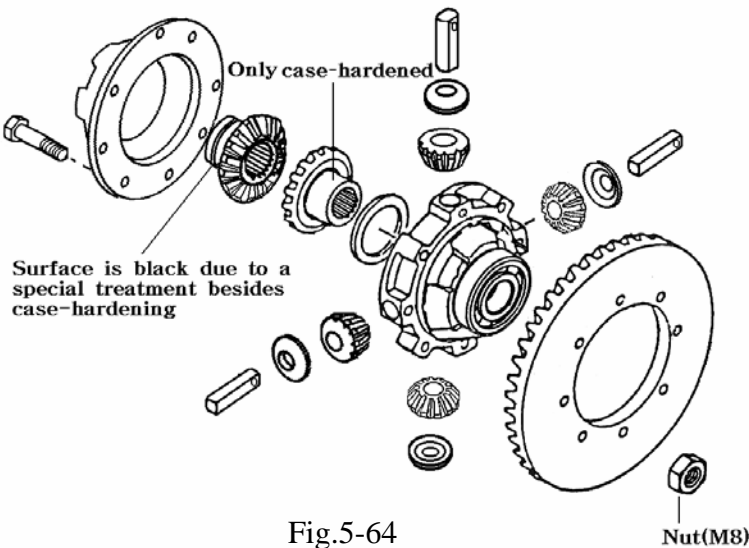

Fig.5-64
- As shown in Fig5-64, there are two kinds of differential side gears. Although are case hardened, the one installed on the side of the diff-lock is treated further and colored black. Take care not to mix them when assembling.